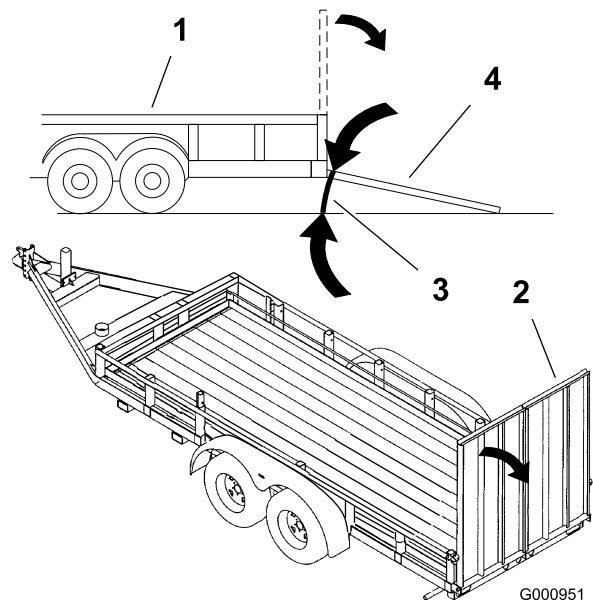

Figure 55
- Use 1 full-width ramp that is wide enough to extend beyond the rear tires is recommended instead of individual ramps for each side of the machine (Figure 55). The platform, when down and locked into position, must extend back between the rear wheels and serves as a stop for tipping backward. Having a full-width ramp provides a surface for the platform to contact if the machine starts to tip backward. With the platform up, a full-width ramp provides a surface to walk on behind the machine.
- The ramp should be long enough so that the angles do not exceed 15 degrees (Figure 55). A steeper angle may cause the chassis to get caught as the machine moves from ramp to trailer or truck. A steeper angle may also cause the machine to tip backward. If loading on or near a slope, position the trailer or truck so it is on the down side of the slope and the ramp extends up the slope. This will minimize the ramp angle. The trailer or truck should be as level as possible.
7. Use the tie-down points on the machine to securely bind the machine to the trailer or truck with straps, chains, cable, or ropes (Figure 55).